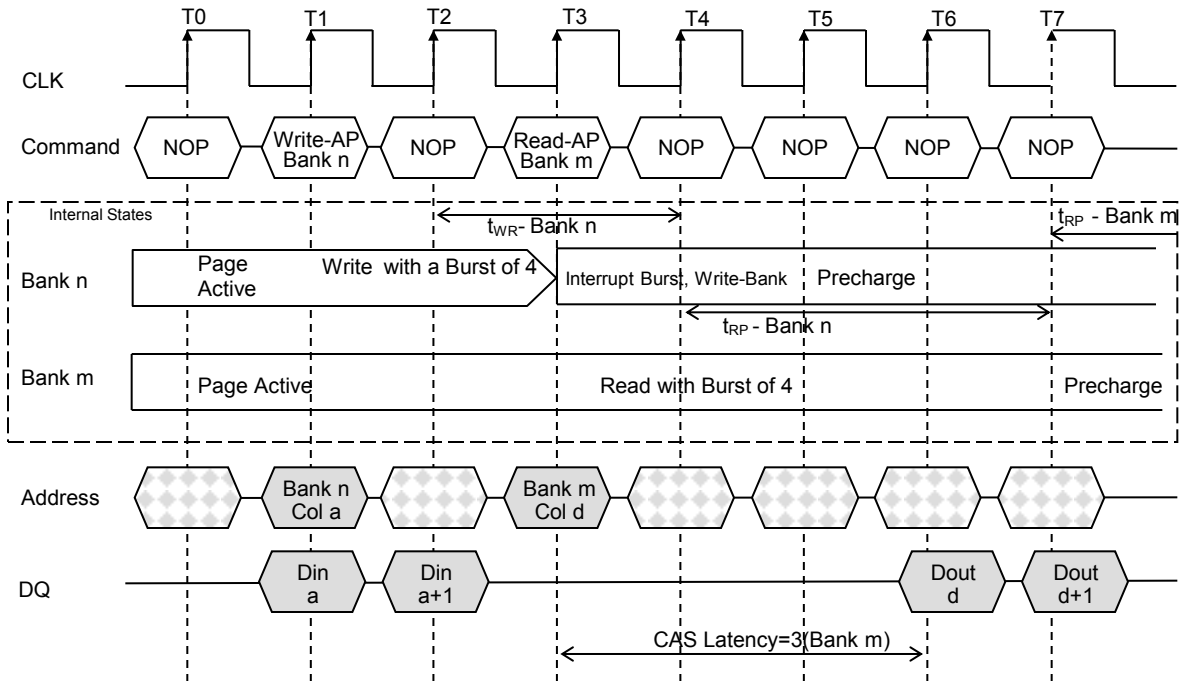

Figure 29. Write with Auto Precharge Interrupted by a Read(CAS Latency =3)
3. Interrupted by a Read(with or without auto precharge): A Read to bank m will interrupt a Write on bank n when registered , with the data-out appearing CAS latency later. The Precharge to bank n will begin after t_{WR} is met, where t_{WR} begins when the Read to bank m is registered. The last valid Write to bank n will be data-in registered one clock prior to the Read to bank m.(Figure 29.)